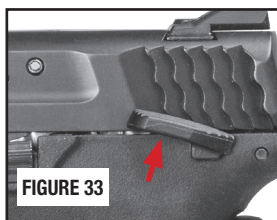

FIGURE 33
- Press the manual safety lever fully up into the SAFE position (FIGURE 33).